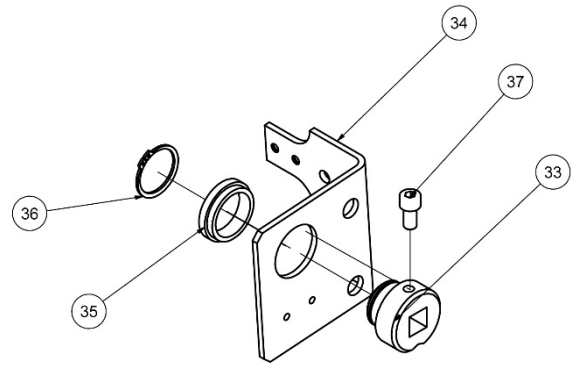

Figure 21 Assembly process
In this space range, the driving bar is equipped with a subassembly known as the "intermediate point" (see Figure 21 Assembly process). This intermediate point (34) must be secured as centrally as possible on the frame.